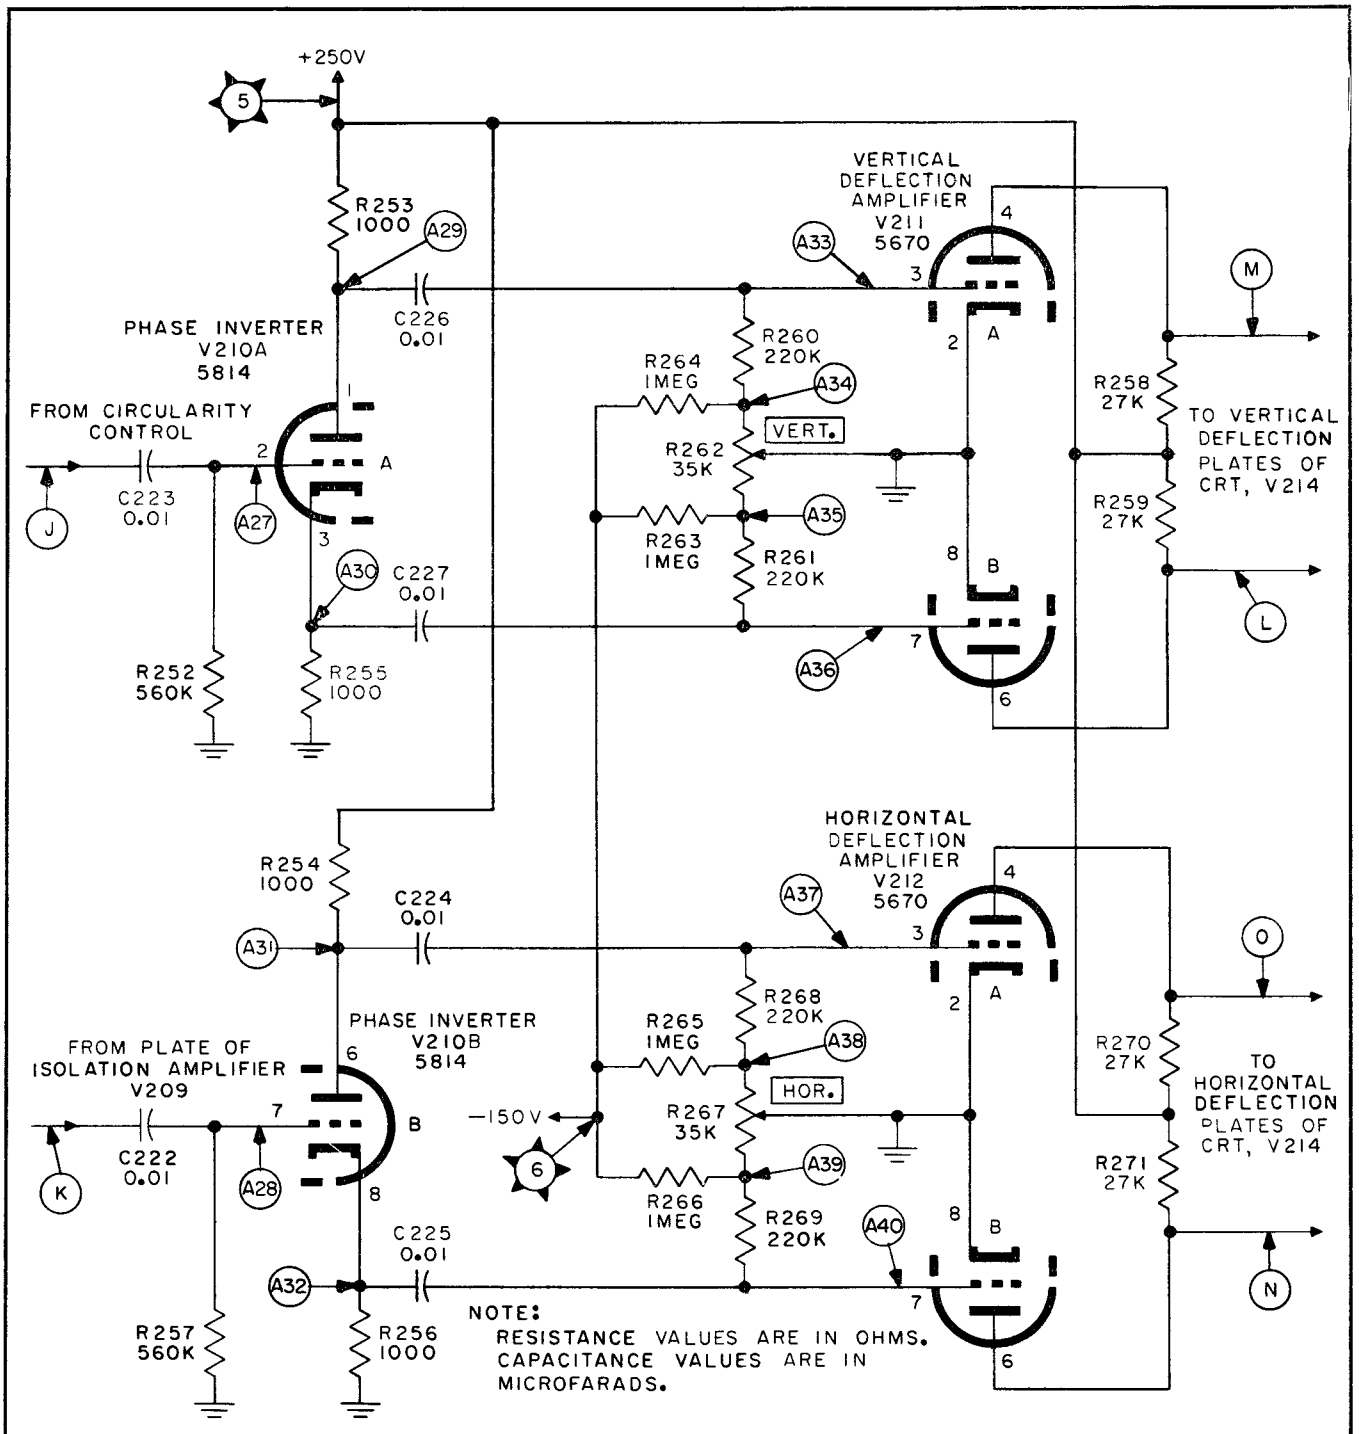

Figure 4-11. Azimuth Indicator Partial Schematic, Two-Channel Phase Inverter and Deflection Amplifiers
- t. Two-Channel Phase Inverter and Deflection Amplifiers (Figure 4-11).
4-43. TWO-CHANNEL PHASE INVERTER AND DEFLECTION AMPLIFIERS. (Figure 4-11.)
4-56. The astigmatism adjustment varies the d-c voltage potential between the second anode and the pairs of deflection plates so that focusing will be the same in both vertical and horizontal planes. The average d-c voltage at the vertical and horizontal plates is less than the amplifier plate supply voltage by the drop in the V211 and V212 plate loading resistances R258-R259, R270-R271 respectively (figure 4-11). The voltage for the second anode is adjusted by varying the arm of the astigmatism adjustment R283, which is across the amplifier plate supply voltage, to a voltage close to, or slightly higher than, that of the average value of the voltages at the vertical and horizontal deflection plates. At the correct value, which is interdependent with the FOCUS control adjustment, focusing will be the same in both vertical and horizontal planes. When the astigmatism adjustment is once set, the FOCUS control will be the only control necessary for the operator to adjust to obtain the sharpest CRT indication.
4-58. As the vertical and horizontal deflection plates of the CRT are at right angles, the angular displacement of each visual line is in the direction of the vector sum of the "sine" and "cosine" voltages as amplified by the separate vertical and horizontal amplifiers of figure 4-11.
4-60. The signal phase-shift through the vertical and horizontal amplifiers of figure 4-11 must be exactly equal. Phase unbalance causes the CRT line indication in the direction of vector sum of "sine" and "cosine" voltages to appear as a narrow ellipse. This will make the indication corresponding to aircraft heading less accurate and also will fog the indication of individual radio signal pulses from the rotating antenna. Capacitors C235, C237, C232, and C236 are adjusted and set to